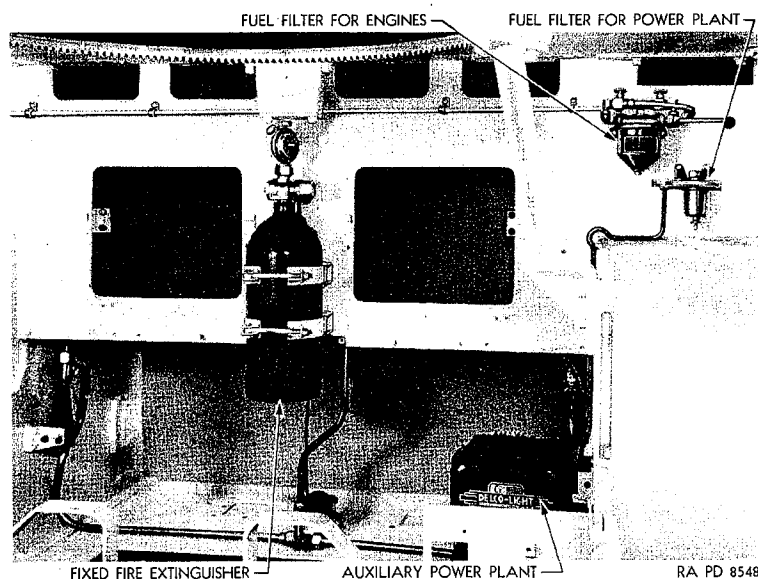

Figure 43—Fuel Filters
(1) A disc-type fuel filter is incorporated in the fuel supply system to strain the fuel before it reaches the engines. This filter is located on the upper left-hand corner of the bulkhead in the fighting compartment (Fig. 43). The lines from both fuel tanks lead to this filter, while one fuel line leads from the filter back to a pipe built into the left-hand fuel tank, thence out of the right-hand wall of the fuel tank, near its rear end, to the two engines.
(2) Another screened outlet pipe leads from the left-hand tank to a smaller disc-type filter, located below the main fuel filter. A feed pipe leads from this filter through a notch in the bulkhead extension to the auxiliary power plant.
(3) Shut-off valves in each of the fuel tank lines are located at the filters where they are accessible from the fighting compartment.